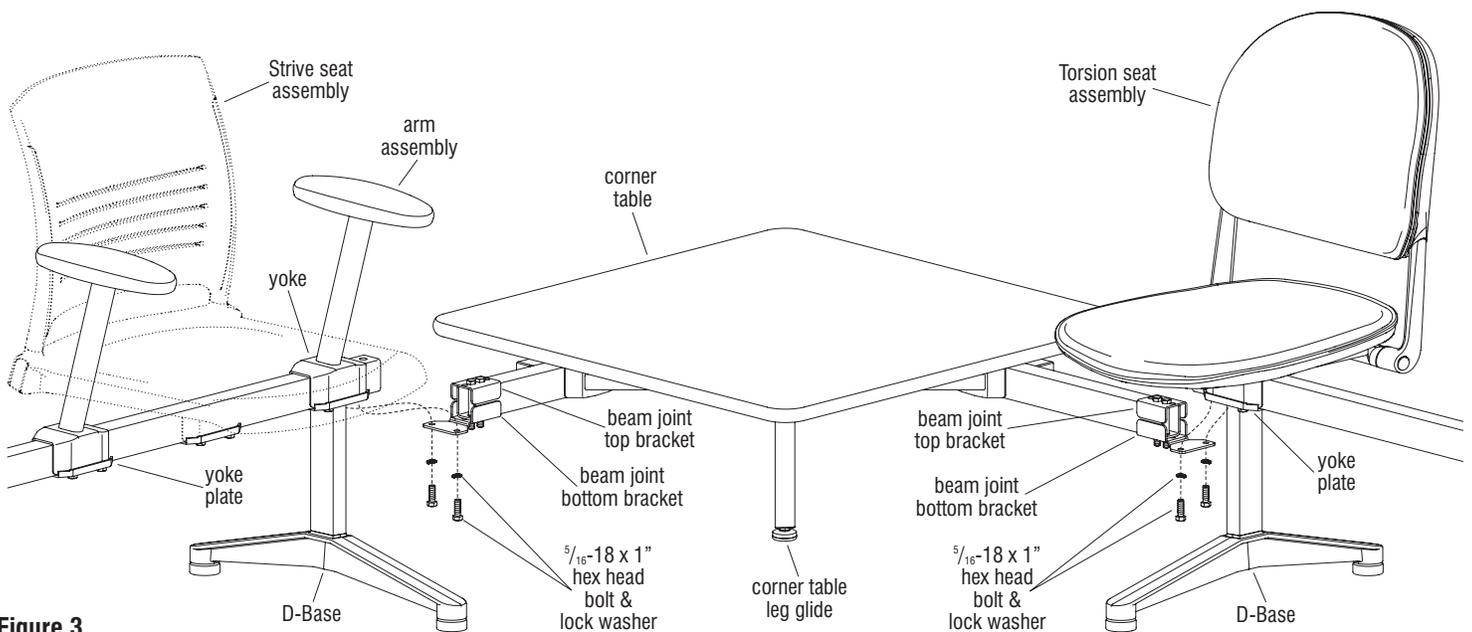

Figure 3
assembled corner table unit. It is recommended to assemble corner table to tandem units at or near their final installation location (Figure 3).
installation. With two or more people, hold the corner table in place and align the mounting holes of the two beam joint bottom brackets with the mounting holes in the yoke plate of an arm, or yoke plate of a D-base leg (where bolts were removed in step 13). The corner table beams may need to be adjusted in or out as required (bolts left loose in step 11) to properly space the corner table to either an arm or a seat on a tandem seating unit (Figure 3).
13. At the locations where the corner table beams will attach to the tandem seating unit (either directly under a yoke plate of a D-base or yoke plate of an arm), remove the two outermost bolts of both units at the installation locations as illustrated (Figure 3).
16. Once the corner table beams are securely attached to the beams of the tandem seating units, the corner table beam lengths can be fine-tuned under the corner table, then the four bolts (from step 11) must be tightened, securing the corner table beams to the corner table frame (Figure 3).